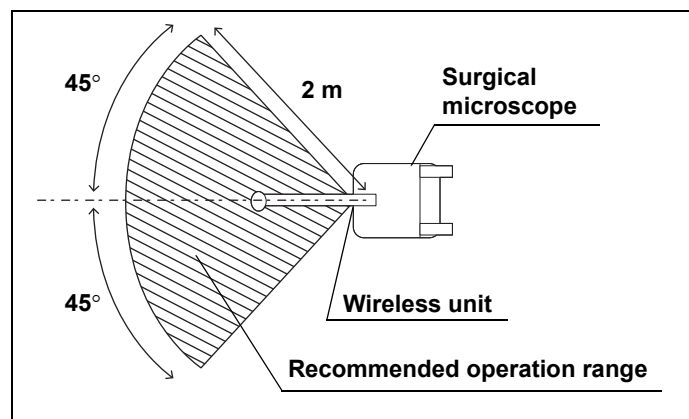

Figure 5.1
- The radio wave of this instrument has a directivity. The foot switch should be used within the recommended operation range below (see Figure 5.1). Otherwise, it may result in slow response or impossibility of operation. In such a case, use the wired control.